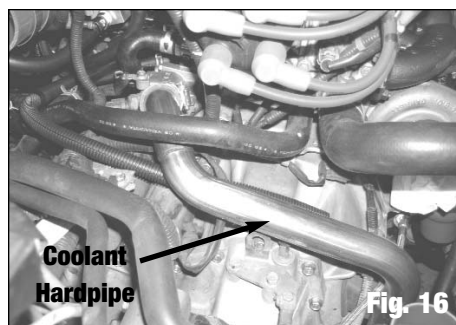

Fig. 16
1. Install the supplied coolant hard pipe in place of the lower radiator hose, using the supplied silicone couplings and hose clamps **(See Fig. 16)**.